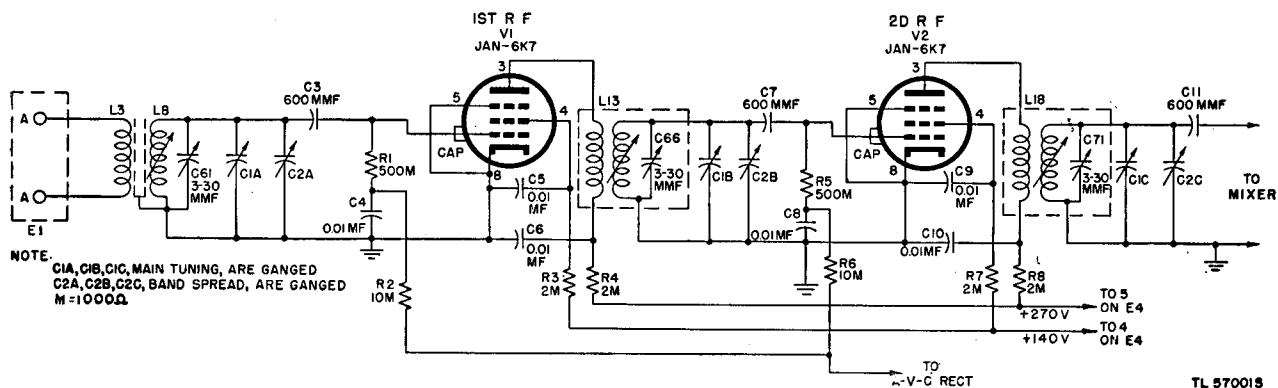
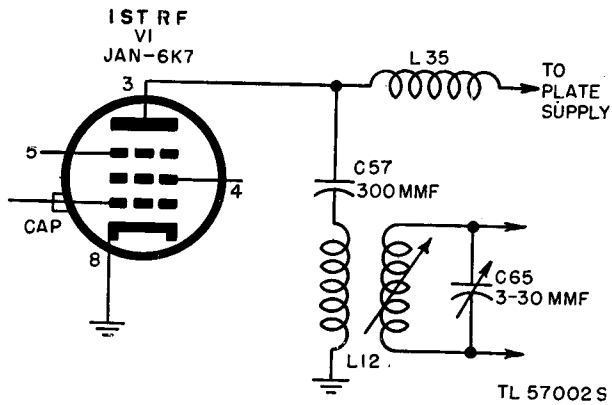

Figure 25. Radio Receiver BC-779-B, functional diagram of r-f amplifier.
Figure 26. Radio Receiver BC-794-B, functional diagram of 1st r-f stage.
59. R-F Amplifier (fig. 25)
For simplicity, only the circuits for the 2.5- to 5.0-mc band are shown and the band switching arrangement is omitted from figure 25. The band switching circuits are discussed in paragraph 68.
c. DIFFERENCES IN R-F CIRCUITS. (1) *Plate supply.* In Radio Receivers BC-779-(*), BC-1004-(*), and R-129/U, plate voltage is series-fed through resistance-capacitance (R-C) decoupling circuits and the r-f transformer primaries (fig. 25). In Radio Receiver BC-794-(*) plate voltage is shunt-fed by means of choke L35 and 300-mmf capacitor C57 in the first stage, and choke L36 and 300-mmf capacitor C58 in the second stage (figs. 26 and 57). This method was chosen to keep plate voltage off the tuned impedance interstage coupling circuits L49, C99, and L50, C100, of the 20-40-mc band. Decoupling filters R4, C6, and R8, C10, are not included.